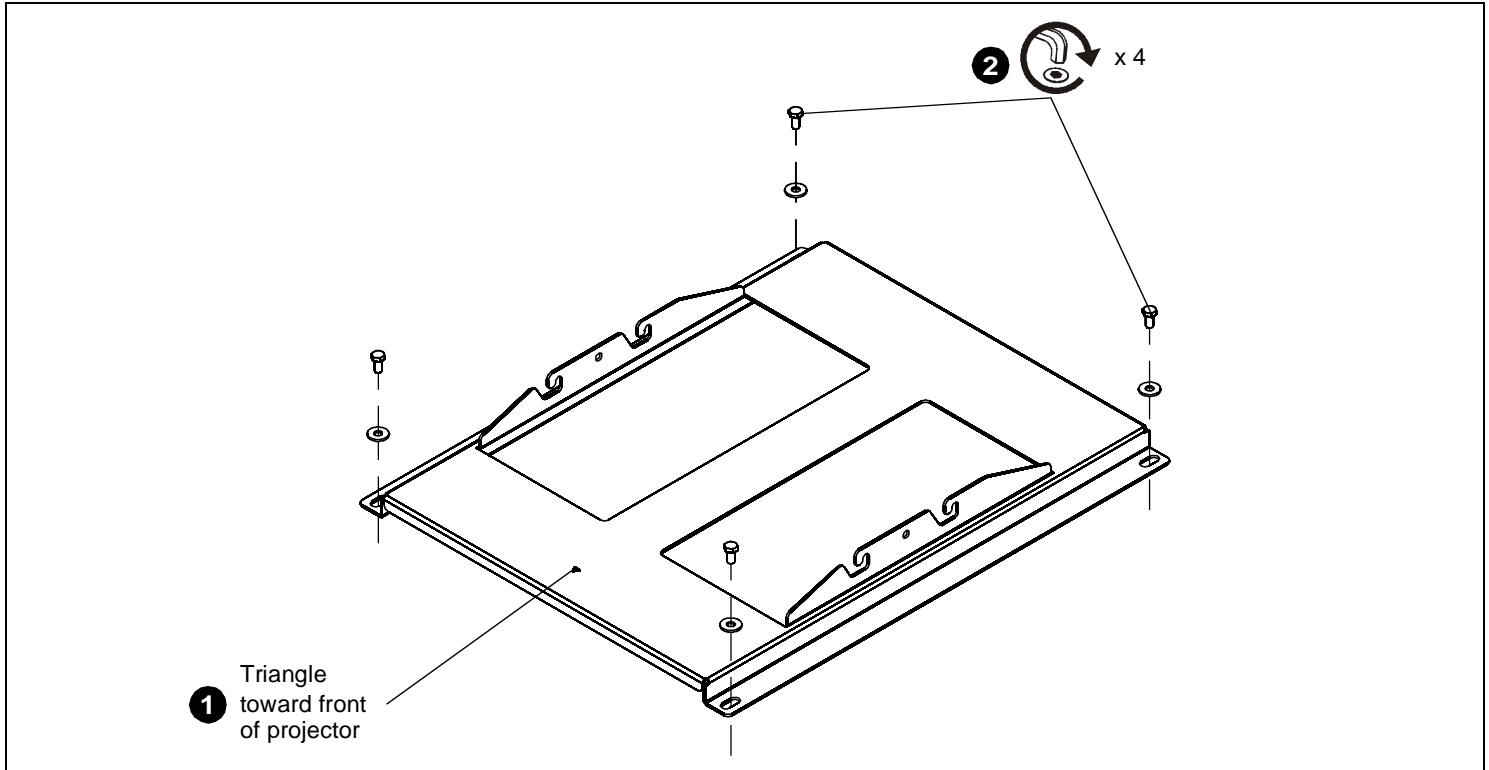

Figure 1:
1. Lower custom HB bracket onto projector. Ensure that small triangle on bracket faces front of projector. (See Figure 1)
2. Attach HB bracket to projector using four M10 x 20mm hex head screws and four M10 flat washers. (See Figure 1)